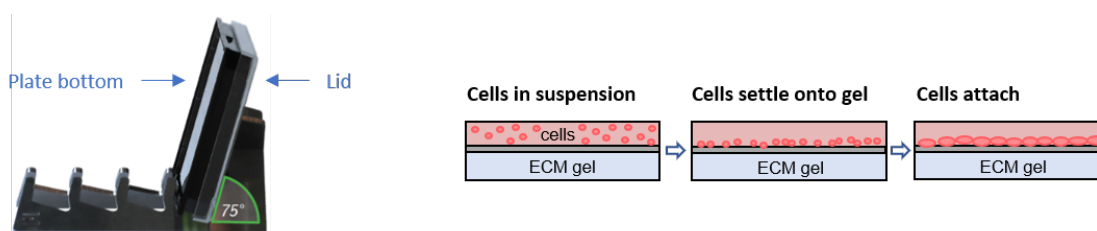

Figure 6: Incubate the OrganoPlate® on the side to allow cells to attach to the ECM gel
8. Place the OrganoPlate® on its side in the MIMETAS plate stand (see figure 6) in the incubator to allow cells to attach